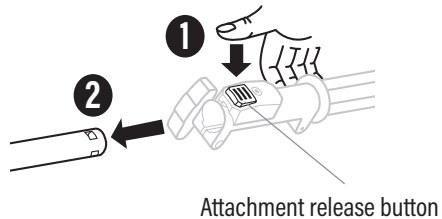

Fig. 4B
3. Press the shaft release button (Fig. 4B, 1), then pull the attachment shaft or extension tube out from the powerhead shaft and remove it (Fig. 4B, 2).